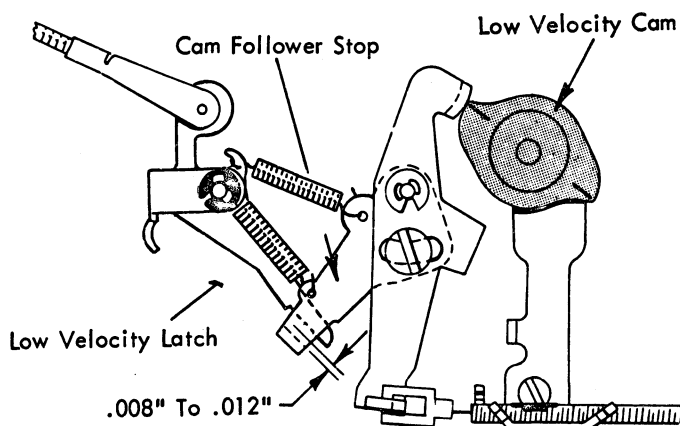

FIGURE 142.12 Low Velocity Cam Adjustment
10. **Low Velocity Cam Adjustment** - The cam should be adjusted radially on the filter shaft so that the following condition will exist: When a low velocity character is slowly hand-cycled, the low velocity latch should clear the adjusting stop on the cam follower by .008" to .012" (Fig. 142.12) just as the cam follower begins to move down off the high dwell of the low velocity cam. Advance or retard the cam to satisfy this condition.
- Slowly hand-cycle a low velocity character until one of the scribe marks on the cam is in line with the center of the shoe on the cam follower (Fig. 142.12).